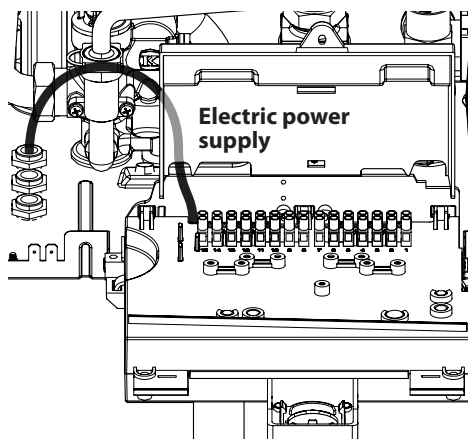

Figure 5.24
- Connect the electric power supply cable to the all-pole switch, respecting the correspondence of the power line (brown wire) and the neutral (blue wire) Figure 5.24.